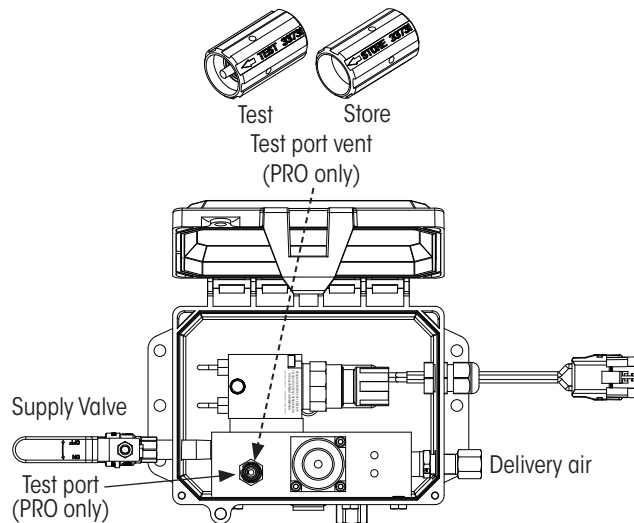

Figure 49: TIREMAX PRO controller with test port vent
- A. The current PRO controller includes a **test port vent tool** that threads into the test port (Figure 49) in the STORE position. To perform a lamp test:
- B. If included: **Open petcock** on controller (Figure 49) to generate air flow across internal flow switch.